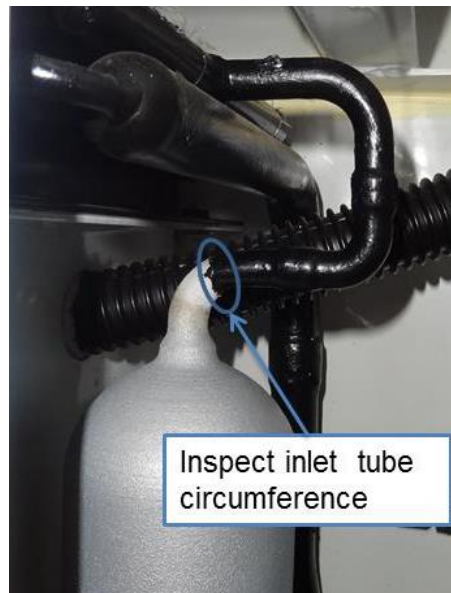

Figure 1
- 1.1 Inspect the area of the receiver inlet tube (Figure 1) for any visual cracks in the tubing. Use alcohol or any available cleaning agent to remove the paint on the tube surface.